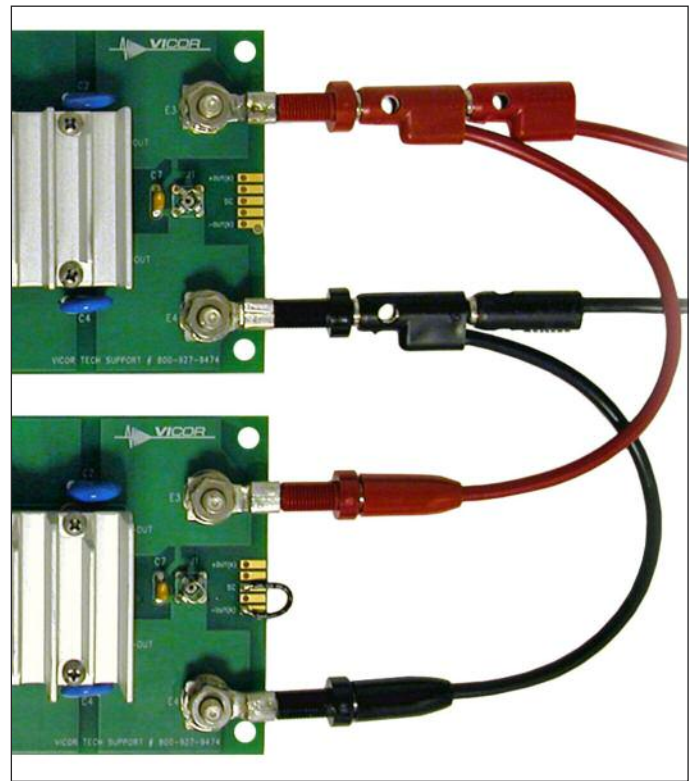

Figure 8: Output connections, lower module is a dedicated booster
4. Connect the SC connection to -OUT(K) on one of the Evaluation Boards, Figure 8. The converter on this board is now a dedicated booster and cannot process power without receiving a PR signal from another converter.